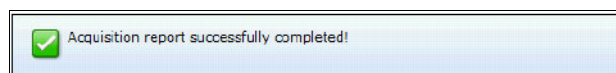

Figure 6-18 Successful completion of acquisition message
- A message displays showing that UXSPI acquired the possible updates for the machine, as shown in Figure 6-18. Click **Next**.